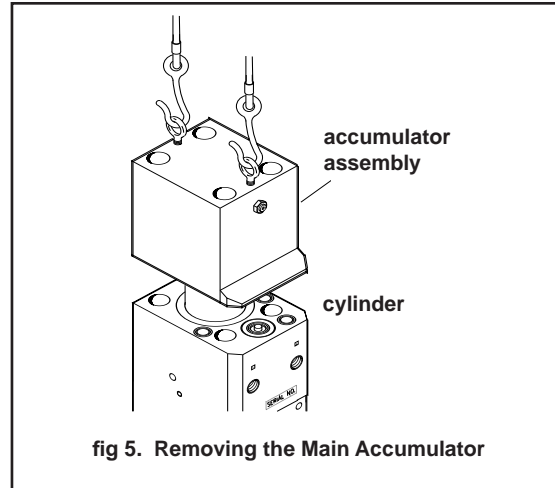

fig 5. Removing the Main Accumulator
1. Unscrew and remove the 4 nuts (39). Do not use an impact wrench. Remove the 4 washers (41).
2. Unscrew and remove the 4 tie rods (40). Do not use an impact wrench. Keep the tie rods and tie rod nuts (42) together in matched sets. Lift off the main accumulator using lifting eyes, slings, and a hoist. (See figure 5)
3. Install a lifting eye into the top of the piston (16). Using a hoist, lift the piston and seal retainer (5) out of the cylinder (6). Remove the seal retainer off of the piston by tapping it with a rubber hammer. Remove and discard the seals.